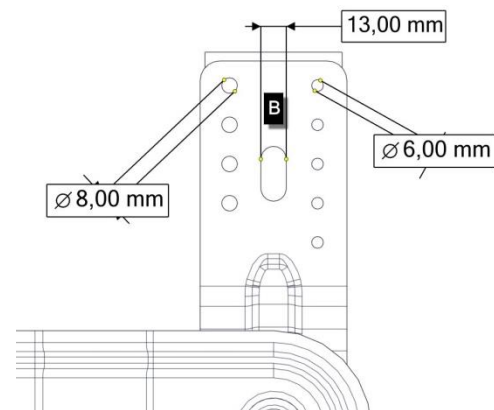

Figure 8. Installation holes in plate of post
- Pre-attach the post using 4 fasteners (screws or rivets according to diameter of holes in plates [B]). **Figure 8**